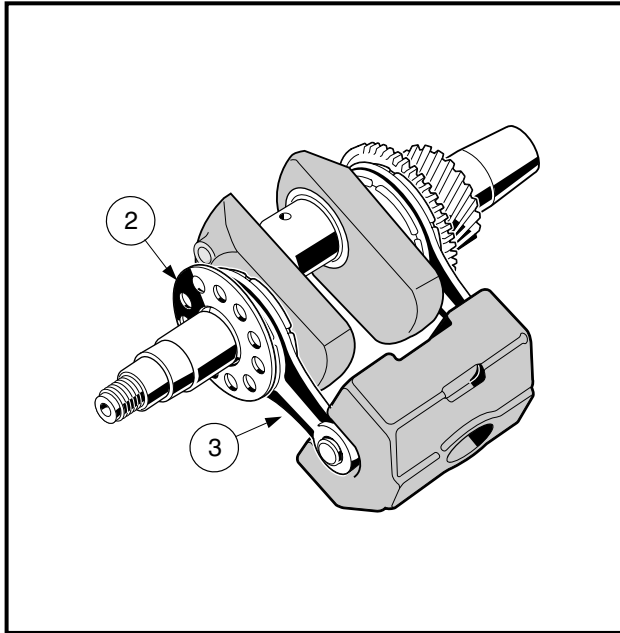

Figure 2-68 Crankshaft and Counterbalance
2. Pull out the crankshaft and the counterbalance together as an assembly (Figure 2-68, Page 2-32).
1. Slide the spacer (2) and the link rod (3) off the flywheel end of the crankshaft. Remove the counterbalance from the remaining link rod (Figure 2-68, Page 2-32). See Link Rod Inspection on page 2-33.